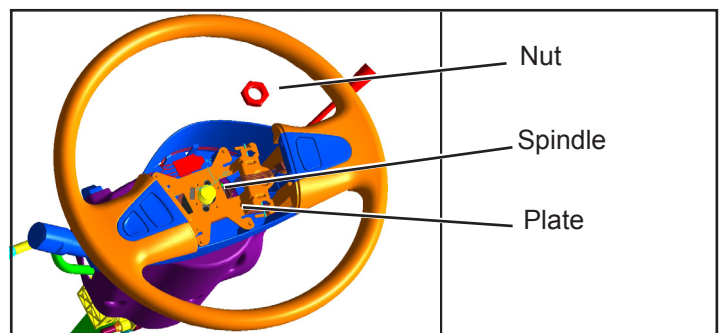

Figure 4 Removing the Steering Wheel Nut
6. Remove the steering wheel nut. Refer to Figure 4.